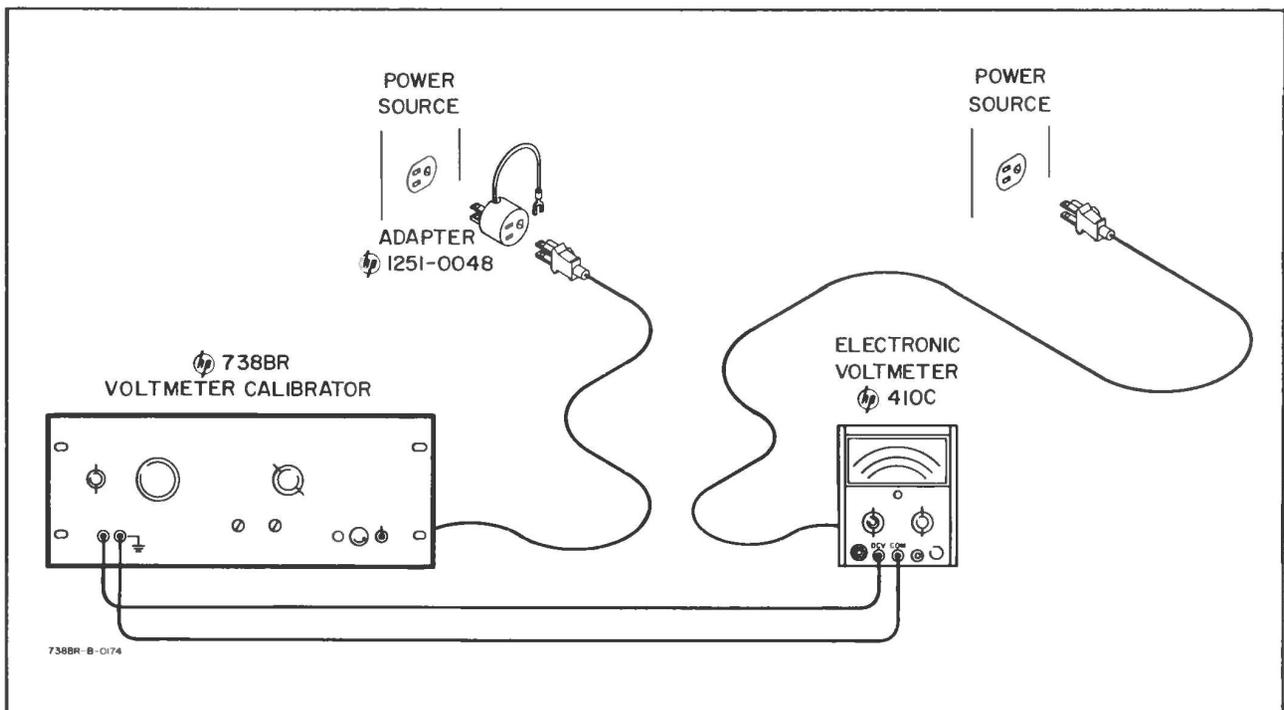

Figure 3-3. Connection for Eliminating Ground Current
the 738BR. The Part Number for this adapter connector is 1251-0048. The instrument under test must be connected to power ground. (See Figure 3-3.)
- a. Connect the OUTPUT of the 738BR to the meter to be calibrated. (Connect as in Figure 3-3.)